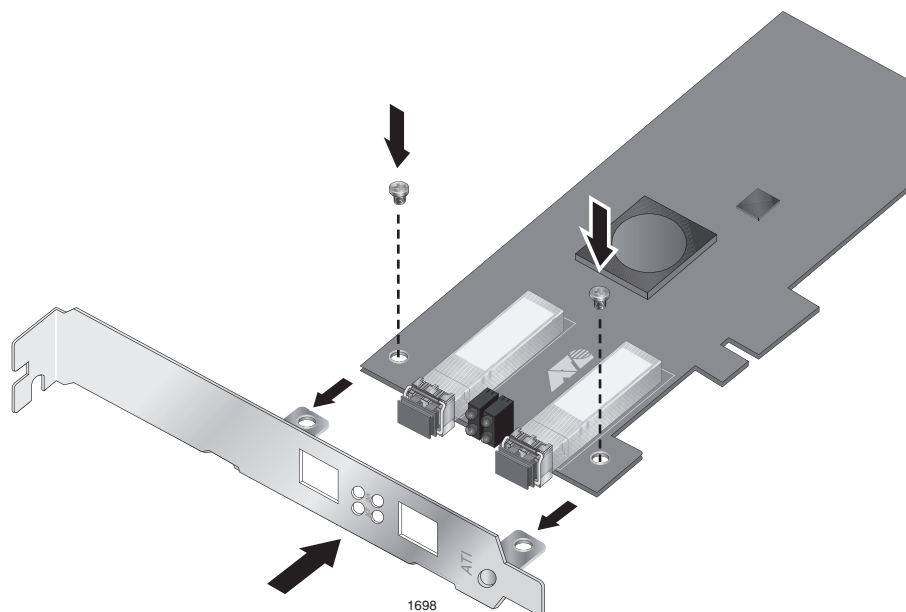

Figure 6. Fastening Screws onto Standard Bracket
2. Align the tabs of the standard bracket with the holes on the adapter and fasten the screws onto the adapter. See Figure 6.